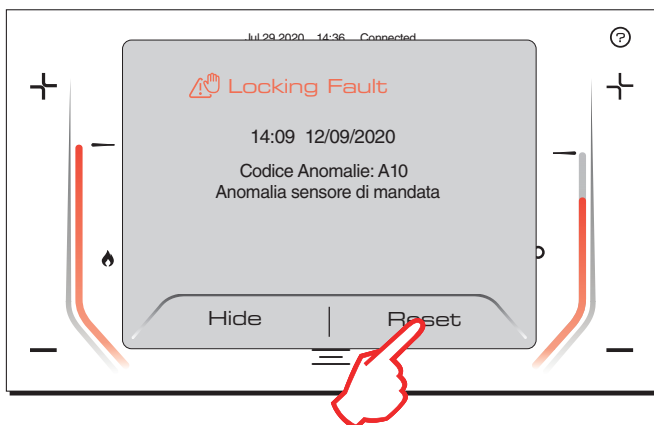

fig. 45
- 1 - Touching [RESET] when a screen similar to that shown in fig. 45 appears.